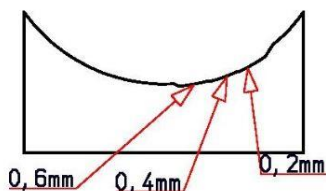

Fig. 12: Cutting depths on the knife gauge
- > Loosen the knife screw (2 - Fig.12) slightly.
- > Place the knife gauge (4 - Fig.12) on the milling head (1 - Fig.12) and slide the knife (3 - Fig.12) against the gauge until it touches the notched area.